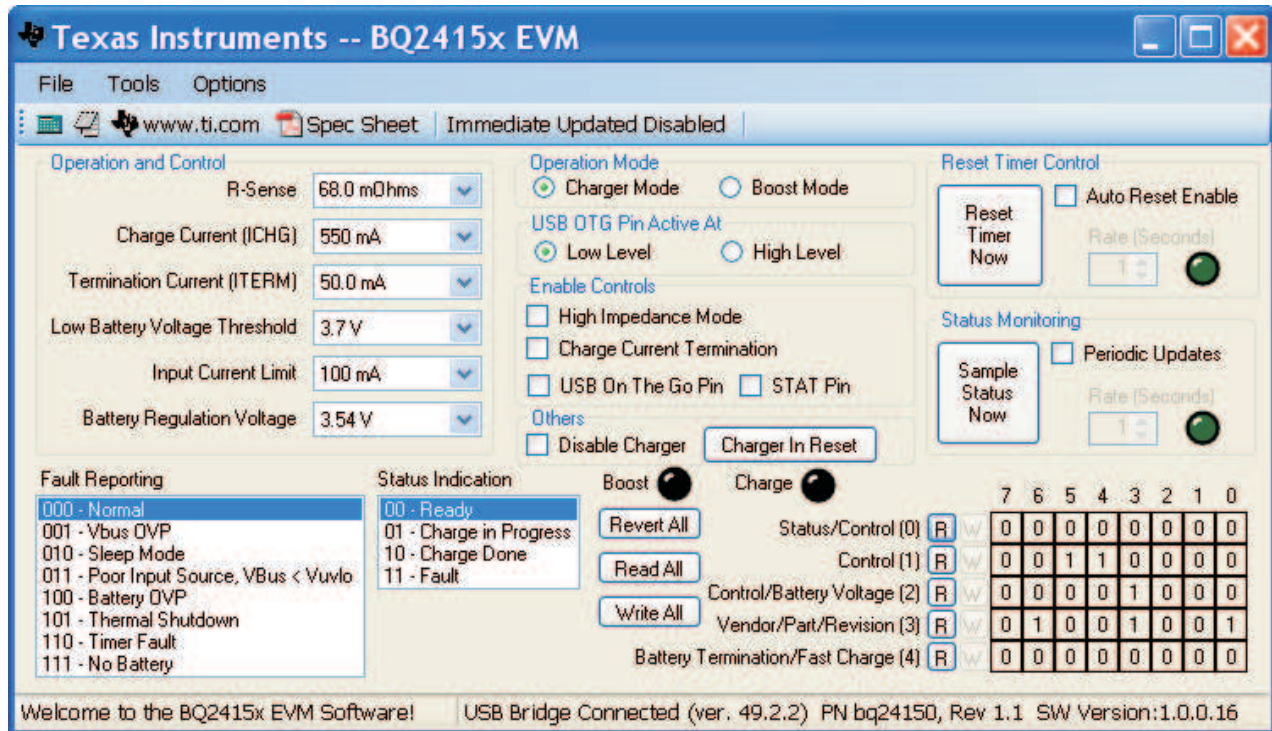

Figure 3. The Main Window of the bq2415x Evaluation Software
1. Turn on the computer. Open the bq2415x evaluation software. The main window of the software is shown in Figure 3.